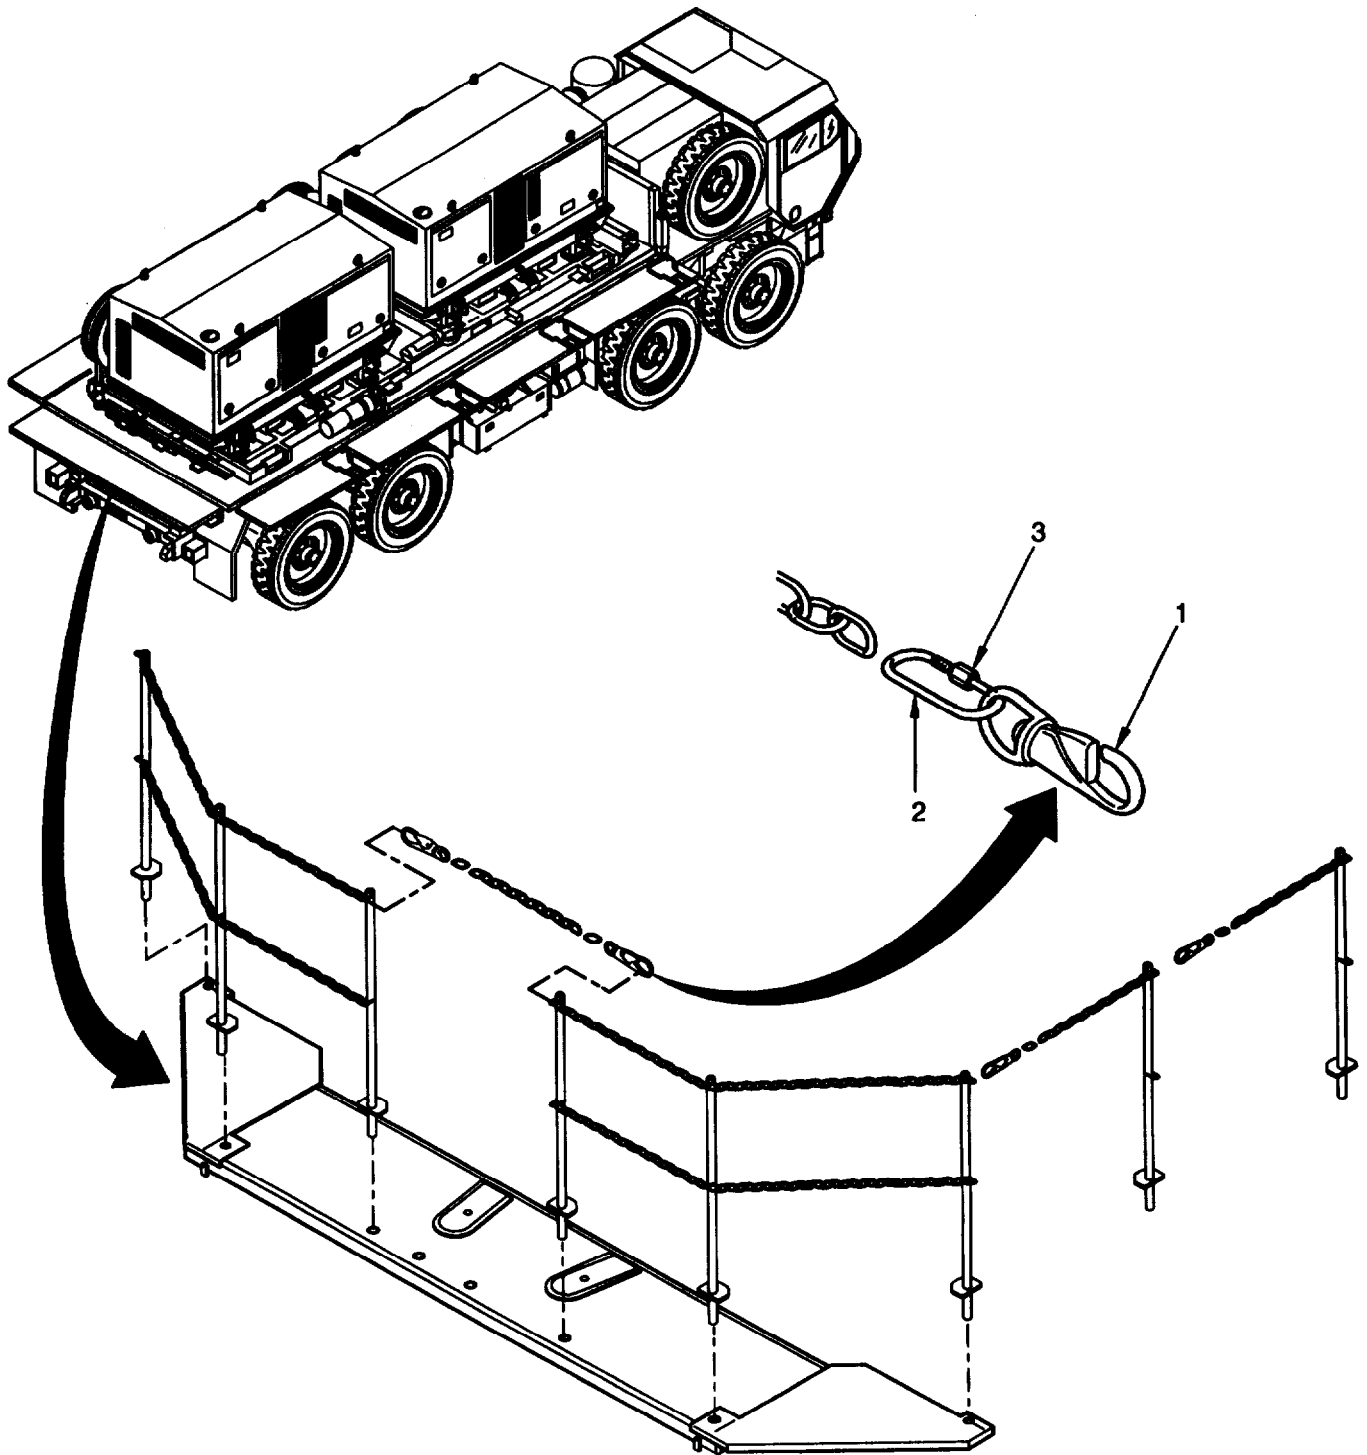

Figure 4-35 Stanchion and Chain Assembly Maintenance.
- a. Loosen retaining nut (3, figure 4-35) on repair link (2) and slide back.
- b. Remove hook (1).